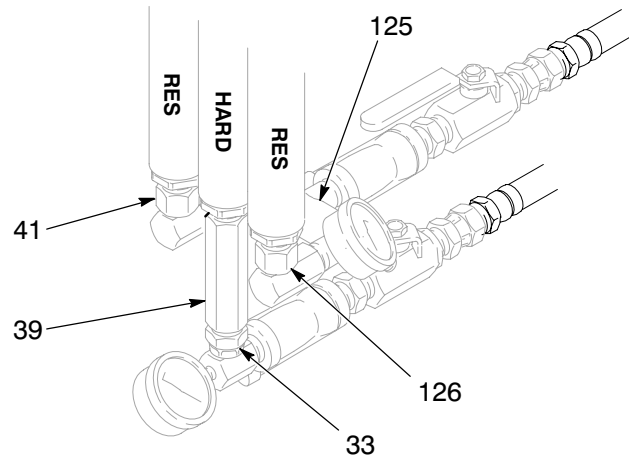

Fig. 21
Unscrew the swivel union (33) from the bottom of the center displacement pump. Unscrew the swivel unions (126) from the outer displacement pumps. Remove the supply manifold (125) from the outer pumps. Unscrew the straight union (39) from the center displacement pump. See Fig. 21.